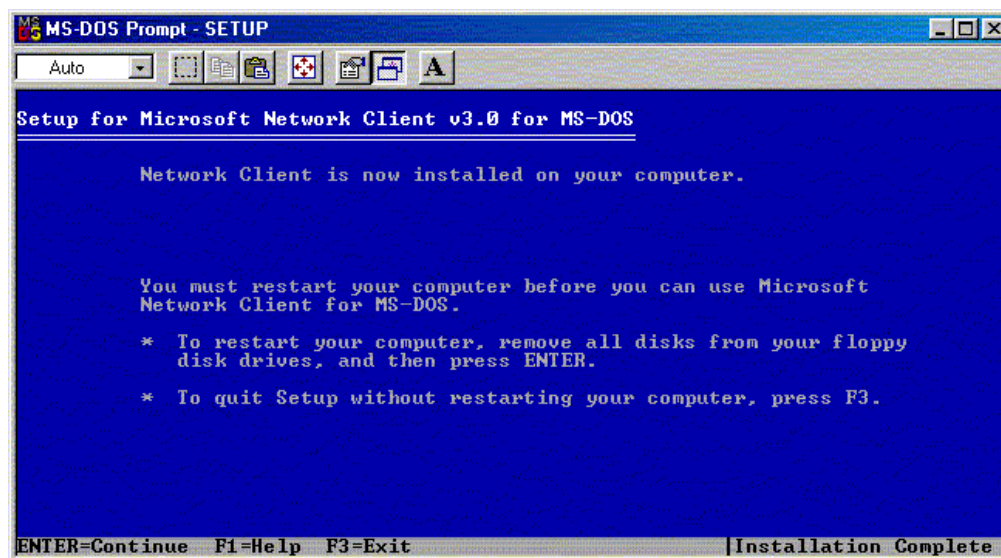

Figure A-16: Final Network Client 3.0 status screen
17. Press the **F3** key to return to the DOS prompt after the file copy and configuration processes complete. A final status screen similar to Figure A-16 is displayed.